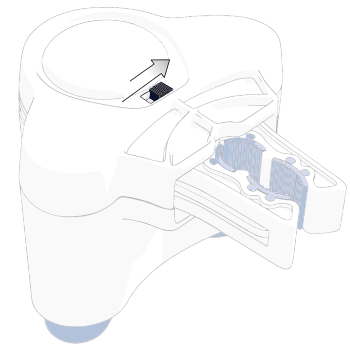

FIGURE 3
5. Completely insert the open nib of the anti-fog solution bottle into the reservoir opening of the See Sharp® unit. (*figure 3*)
7. Allow five (5) minutes for See Sharp® to reach optimal temperature.